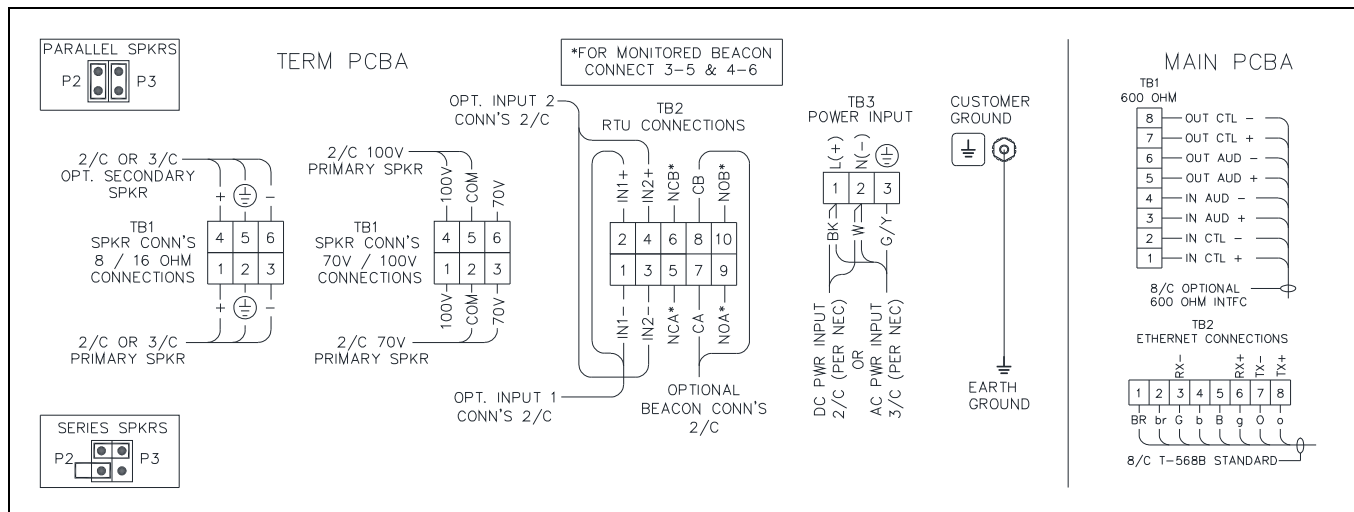

Figure 3. SP2 Connection Diagrams
SP2 stations provide terminal blocks, on the termination PCBA, located in the rear enclosure, for field wiring the power, speaker, and RTU connections. The main PCBA, mounted to the back of the front panel, provides pluggable terminal blocks for the 600-ohm audio and Ethernet network connections (see Figure 3).
1. Terminate the direct speaker connection to terminal block TB1 on the termination PCBA (see Figure 3).
1. Connect 100-volt speakers between the 100V and COM terminals on TB1. Connect 70-volt speakers between the 70V and COM terminals on TB1 (see Figure 3).
5. Terminate the RTU inputs and output to terminal block TB2 on the termination PCBA (see Figure 3).
6. Terminate the ac or dc power input to terminal block TB3 on the termination PCBA (see Figure 3).
7. Terminate the 600-ohm audio connections to terminal block TB1 on the main PCBA (see Figure 3).
8. Terminate the Ethernet connection to terminal block TB2 on the main PCBA (see Figure 3).